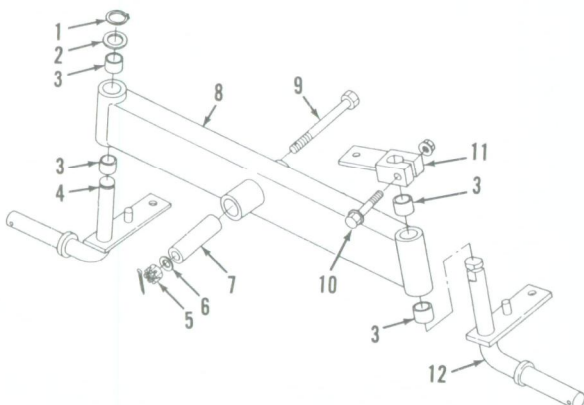

Fig. K1—Exploded view of front axle assembly.
port front of tractor. Remove drive belts from engine pulley, then unbolt and remove engine pulley. Disconnect drag link from spindle steering arm. Remove nut (5—Fig. K1), withdraw pivot bolt (9) and remove axle assembly from tractor.
REMOVE AND REINSTALL. To remove steering spindles (4 and 12—Fig. K1), raise and support front of tractor. Remove front wheels. Disconnect tie rod from spindles. Remove clamp bolt (10) from steering arm (11) on left spindle (12), then tap spindle out of steering arm and remove spindle from axle. Remove snap ring (1) from right spindle (4) and lower spindle from axle.